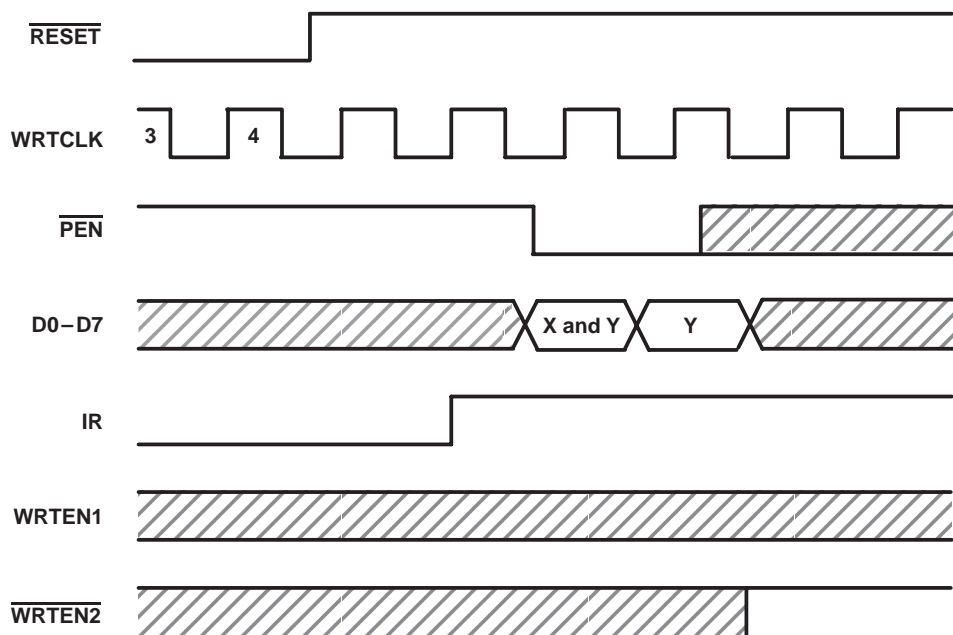

Figure 4. Programming X and Y Separately
Program enable ($\overline{\text{PEN}}$) should be held high throughout the reset cycle. $\overline{\text{PEN}}$ can be brought low only when IR is high. On the following low-to-high transition of WRTCLK, the binary value on D0–D7 is stored as the almost empty offset value (X) and the almost full offset value (Y). Holding $\overline{\text{PEN}}$ low for another low-to-high transition of WRTCLK reprograms Y to the binary value on D0–D7 at the time of the second WRTCLK low-to-high transition. When the offsets are being programmed, writes to the FIFO memory are disabled regardless of the state of WRTEN1 and $\overline{\text{WRTEN2}}$. A maximum value of 255 can be programmed for either X or Y (see Figure 4). To use the default values of $X = Y = 64$, $\overline{\text{PEN}}$ must be held high.